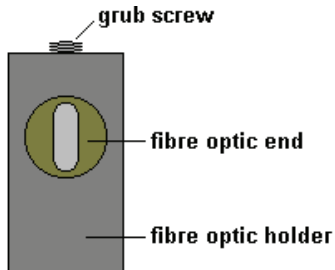

Figure 84 Right holder grub screw
16. Rotate the fibre until it is vertical then tighten the grub screw (Figure 84).